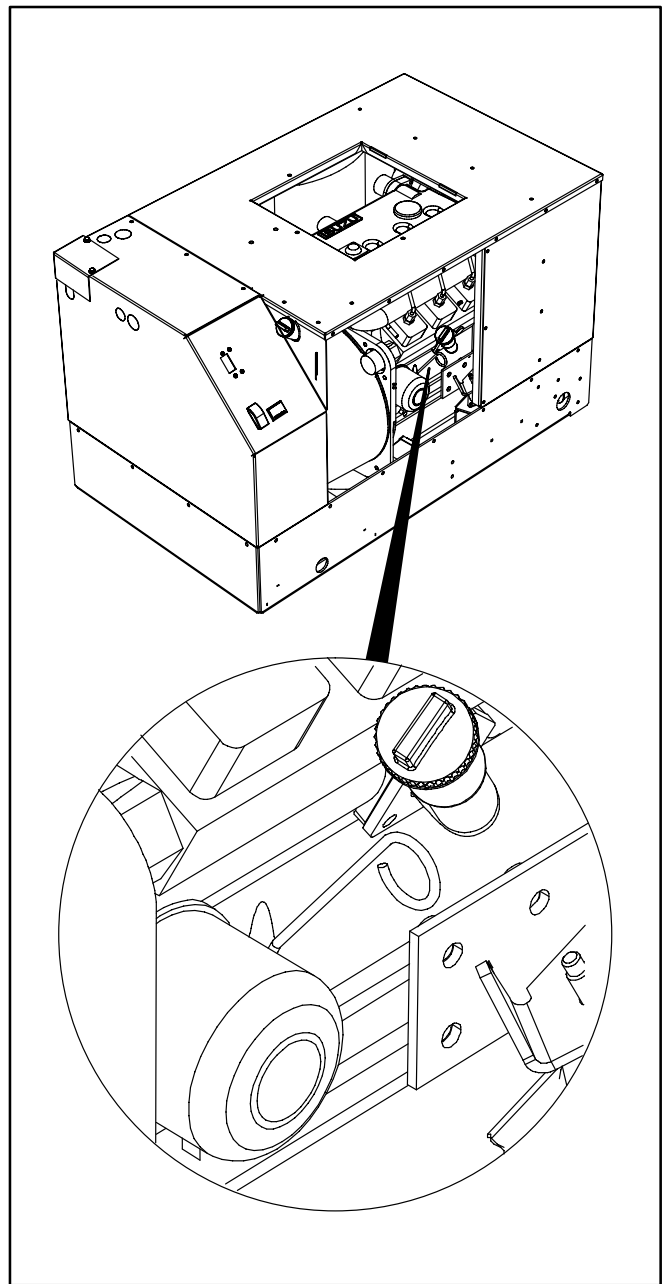

FIGURE 3-1. CHECKING ENGINE OIL LEVEL
Check engine oil level (Figure 3-1).
2. Pull out the oil dip stick, wipe it clean, reinsert it and pull it out again to check the oil level (Figure 3-1).
2. Remove the front access door and the oil fill cap (Figure 3-1), unscrew the oil drain plug (24 mm hex head) and drain all the oil from the engine. ***Reinstall the oil drain plug securely.***
3. Spin off the oil filter canister (Figure 3-1) and clean the filter mounting surface on the engine block. Remove the old gasket if it remains.
5. Refill with 6.7 quarts (6.3 liters) of oil, check the level (Figure 3-1) and secure the front access door.